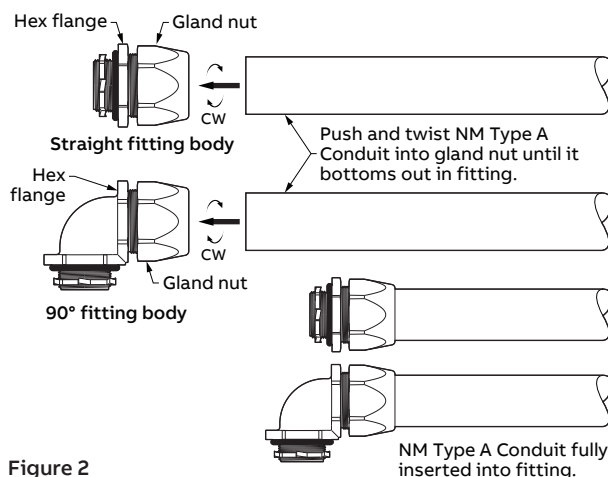

Figure 2
2. Leave gland nut in position as shown in Figure 2. Slide the NM Type A Conduit through Gland nut by pushing and twisting clockwise (CW) until it stops in the fitting body, see Figure 2.